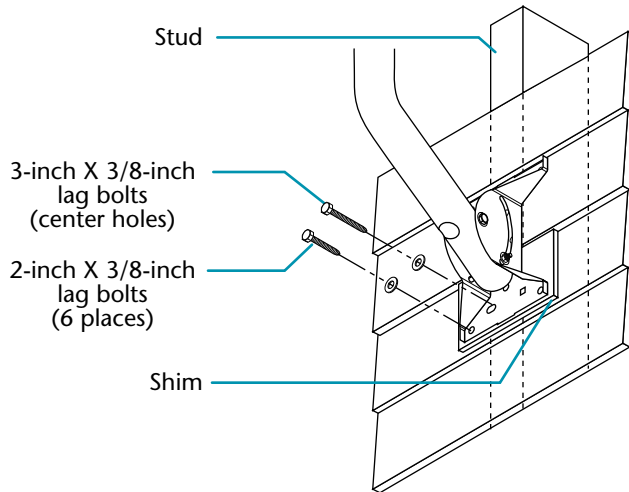

Figure 4-34. Using siding as the mounting surface
1. Locate a wall stud onto which you can install the antenna base plate as shown in figure 4-34. Wall studs can most easily be found by looking for the line of nails that shows where the siding is attached to the building by using a stud finder (see figure 4-34).